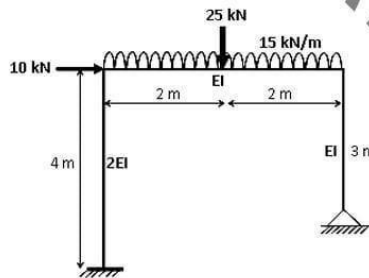

Figure 2
3. Using Kani's method, analyse the frame shown in Figure 2 and draw the bending moment diagram. [15]